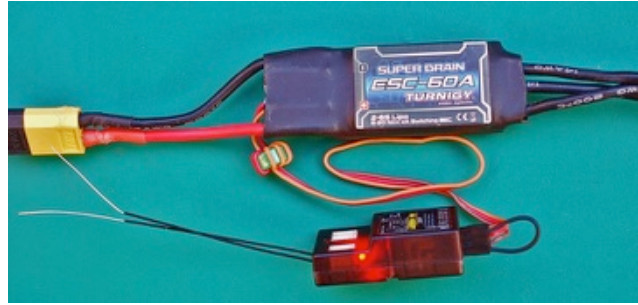

Figure 5: Solid red light indicates successful bind
3. Turn on the transmitter in bind mode approximately 2 meters away from receiver. The receiver LED should change to slowly flashing, then to steady RED indicating successful bind (see Figure 5). If you don't get a solid red light on the receiver (and satellite if used), see the advice below.